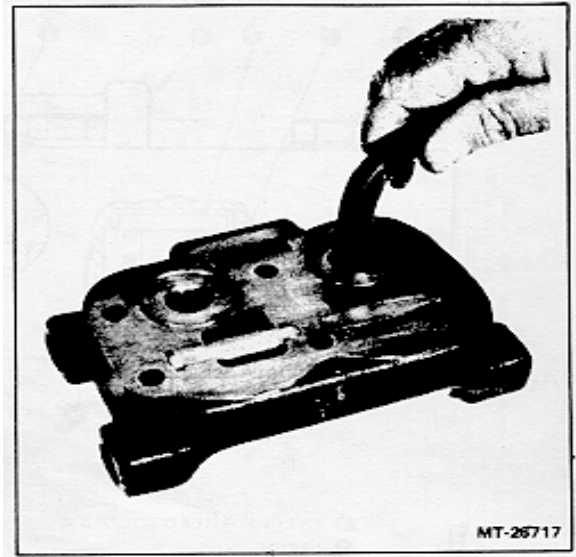

Figure 5 - Removing Exhaust Valve Seats
6. Use a 14mm (9/16 in) alien wrench and loosen exhaust valve seats (Figure 5).